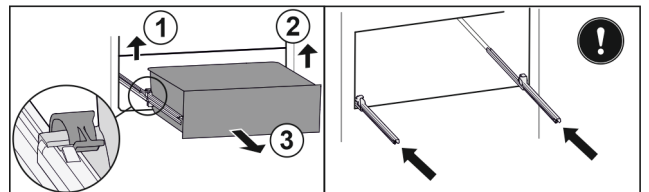

Fig. 105
- ▶ Lift left clamp and simultaneously pull drawer forwards on the left. *Fig. 105 (1)*
- ▶ Lift right clamp and simultaneously pull drawer forwards on the right. *Fig. 105 (2)*
- ▶ Remove drawer to the front. *Fig. 105 (3)*